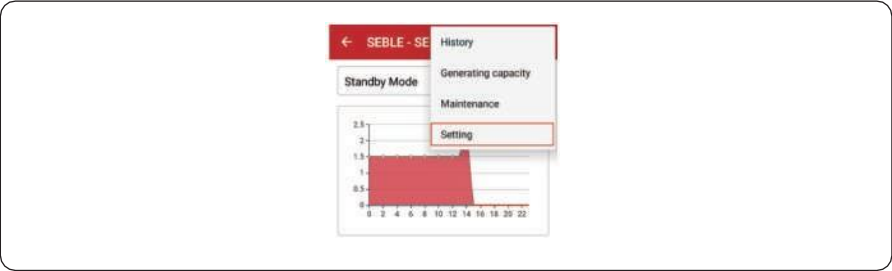

Figure 5.18 APP homepage setting
**Step 2** Click the Extension key, and select Setting in the prompt manual, as shown in Figure 5.18.